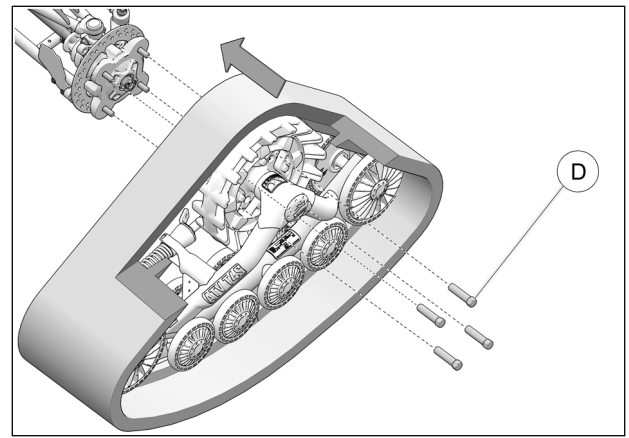

Fig. 6
7. Secure undercarriage to rear hub using the lug nuts (**D**) provided. See Fig. 6
- Using the lug nuts provided (D), secure undercarriages to front wheel hubs. The procedure and precautions are the same as for rear units. Refer to Fig. 6